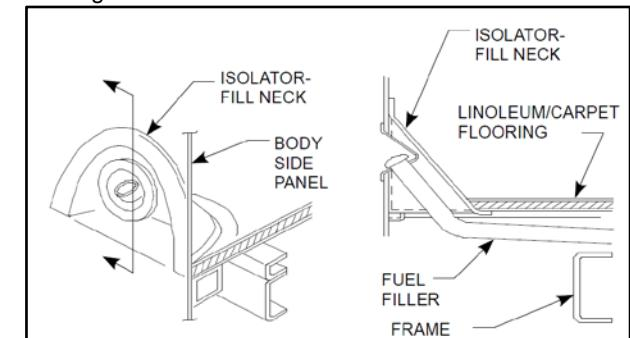

Figure 3 – Body Mounted Fuel Filler Openings
- The fuel filler opening area of the body should provide adequate sealing from the vehicle interior because holes or cracks in this area may allow fuel vapors to enter the vehicle interior. Openings should be sealed with a product which is fuel resistant. See Figure 3.